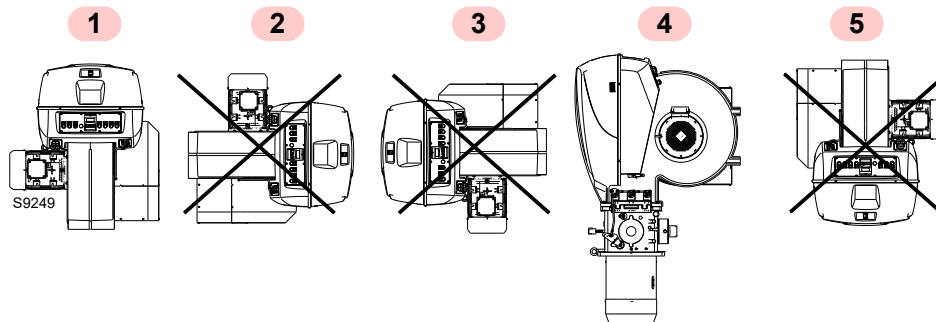

Fig. 11
- The burner is designed to operate only in positions 1 and 4 (Fig. 11).